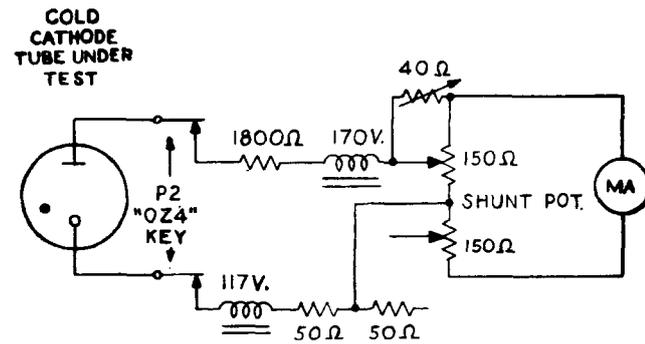

Fig. 5 - Cold Cathode Tube Test Circuit
2.24 When testing a cold cathode tube, the circuit (Fig. 5) is similar to that described in Paragraph 2.23 except that two windings of the power transformers are employed in series, applying an a-c potential of 290 volts in series with a current limiting resistor to the tube under test.